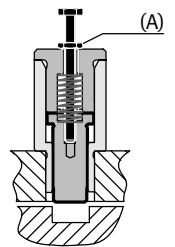

Fig. 3
- Turn a screw (→ table Fig. 5) through the orifice [2] of the end-position locking into the thread of the bolt (→ Fig. 3).
- Use a screw with lock nut (A) to fix the bolt in the unlocked position (→ Fig. 3).